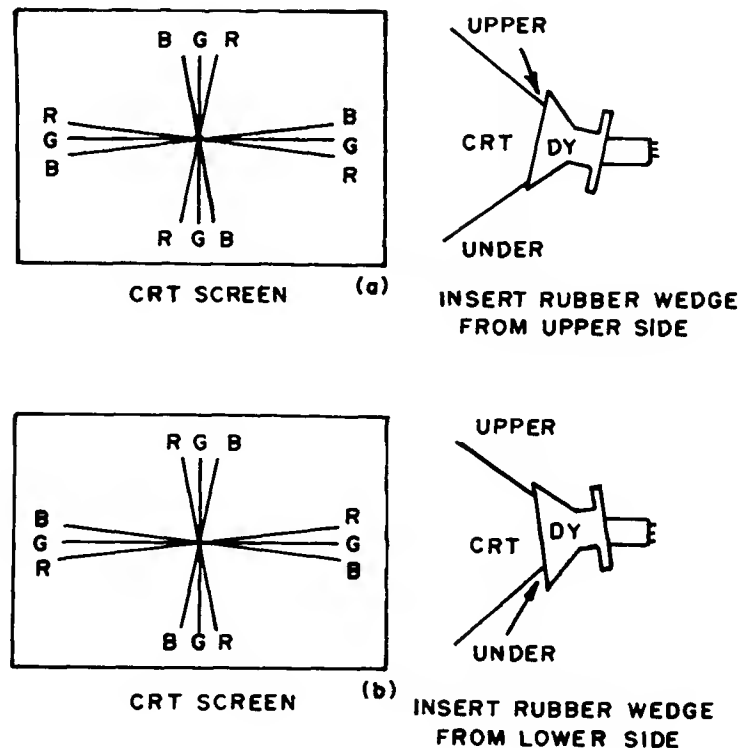

Figure 8
- 4.3 Tilt the angle of the yoke up and down to adjust the crossover of both vertical and horizontal red and blue lines. See Figure 8 (a) and (b).